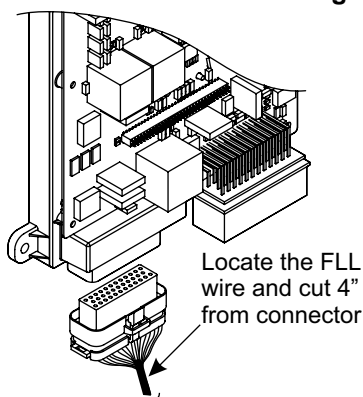

Figure 1
- The Fuel Level Sensor – "FLS" (digital) or Fuel Level Alarm – "FLA" (analog alarm) wired output of the Coordinator should be wired into the corresponding controller device prior to pairing. See the wiring diagram figure 1 & 2.